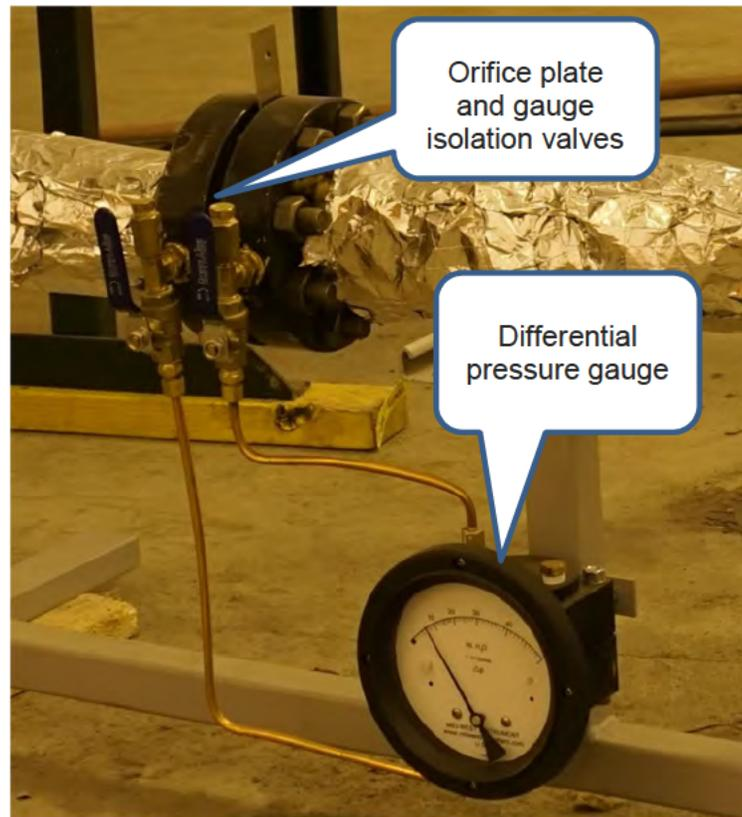

Figure 1 – Steam Injection Flow Meter
4. As the system warms up and comes up to pressure the pressure regulators will need to be adjusted to match the design flow (differential reading) provided by the project engineer. A differential pressure gauge like the one shown in Figure 1 will need to be read and converted to a mass flow rate.